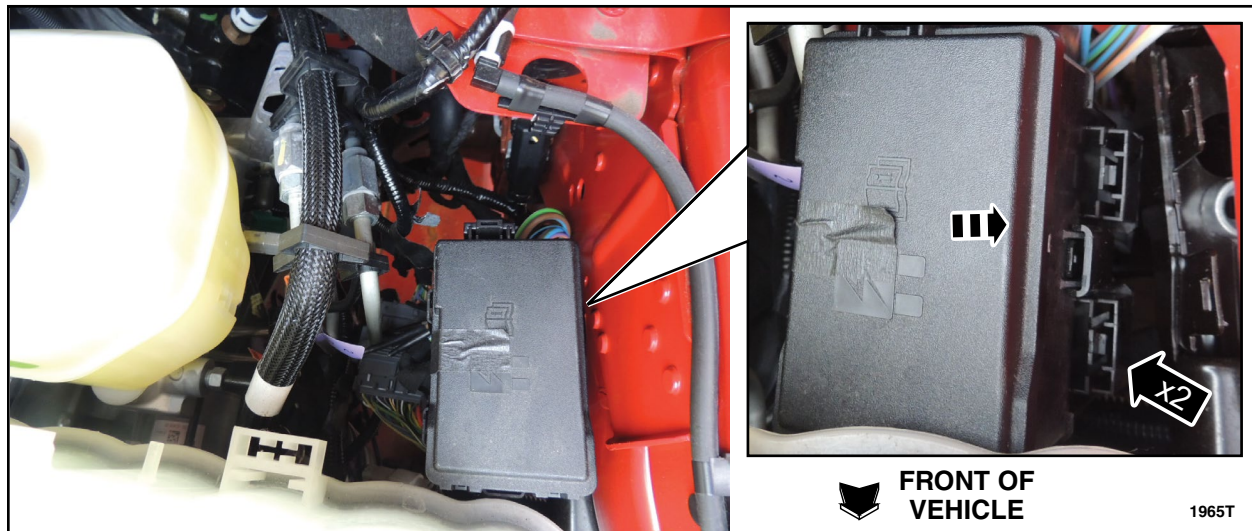

FIGURE 31
11. Position back the LH side fuse box. See Figure 31.